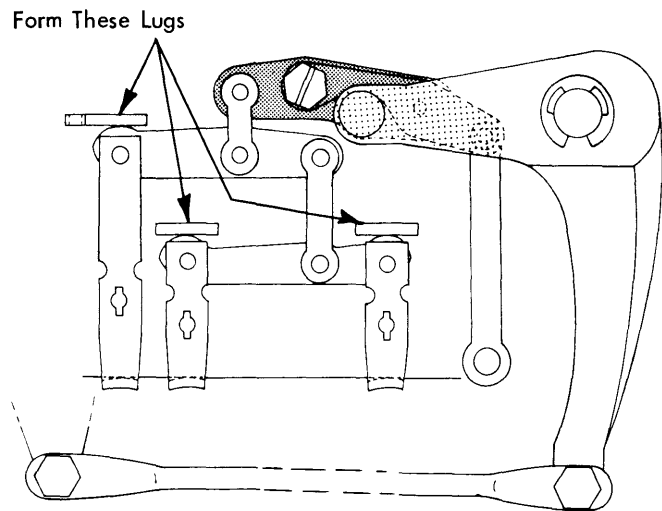

FIGURE 52. *Rotate Selector Latches*
- a. Form the stop lugs above the positive rotate selector latches (Fig. 52) so that the latches will reset simultaneously (under the latch bail) just as the cycle clutch check pawl drops into the notch on the check ratchet at the rest position.